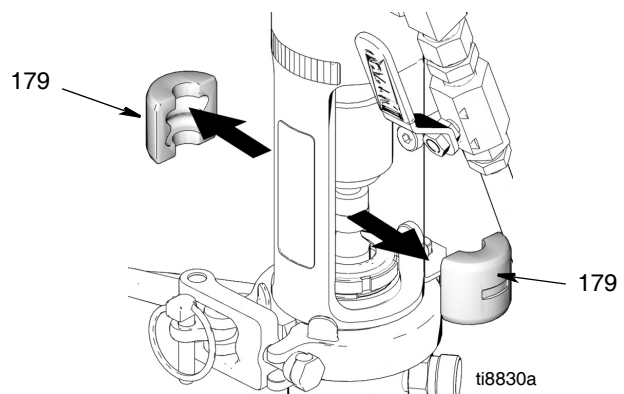

FIG. 15
- 5 (Fig. 15) Slide coupler cover (193) up to fully expose rod couplers (179).